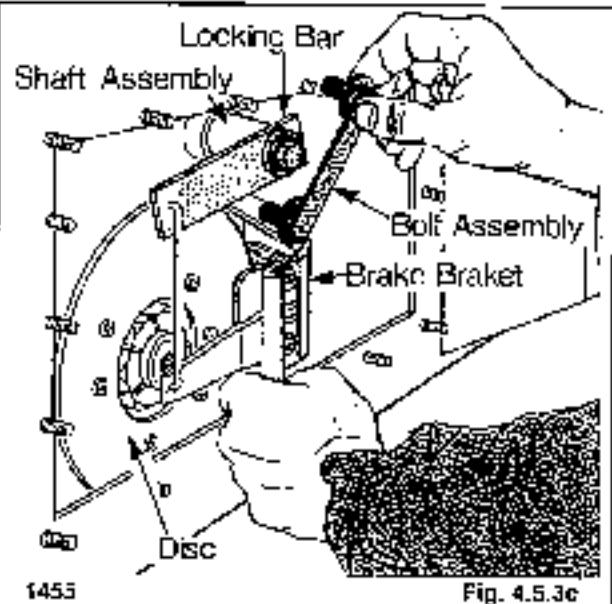

Fig. 4.5.3c
7. Remove the bolt assembly from the parking brake bracket (fig. 4.5.3c). Remove the bolt which secures the locking bar to the brake shaft. Remove the brake bracket and locking bar assembly from the loader.